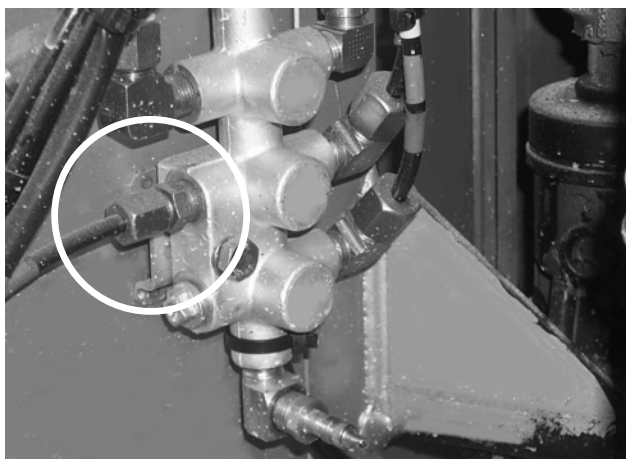

Figure 3: New junction block fittings:
- 2) Locate the leaking adapter at solenoid valve bank V543 (see Figure 3) or the brake interlock solenoid valve (see Figure 8).